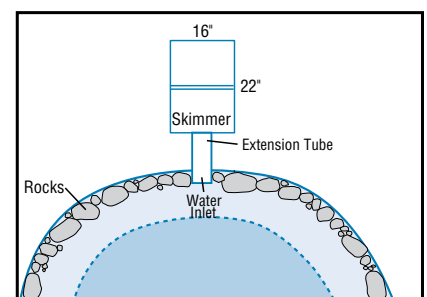

Figure 3
**Optional:** If using with 24" SETS extension tube this hole should be set back from pond edge the length of the extension tube (figure 3).